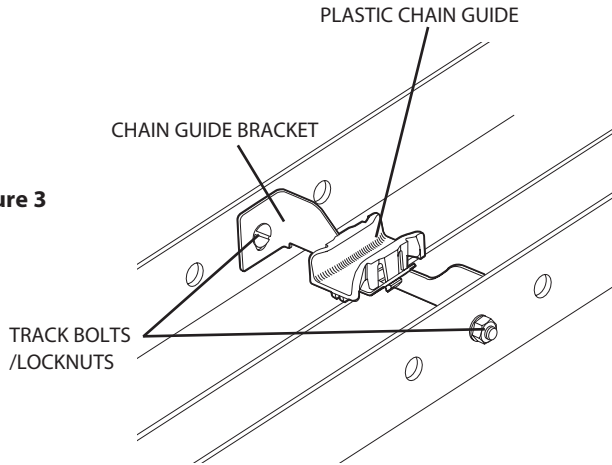

Figure 3
- 2) Attach the chain guide assemblies to the drawbar tracks using round head screws and locknuts (provided). **Fig. 3.**